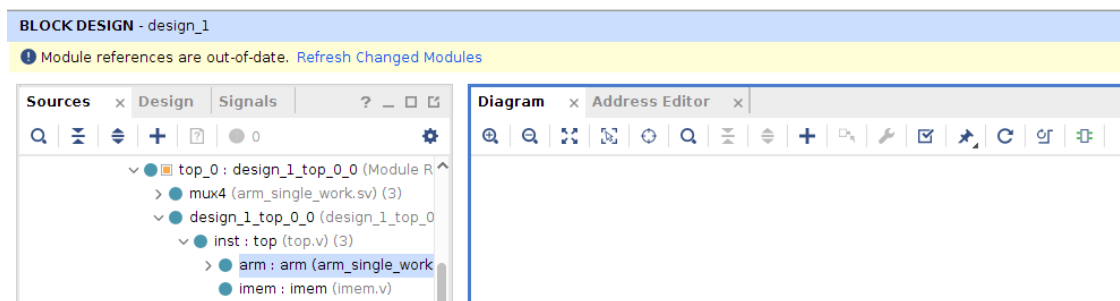
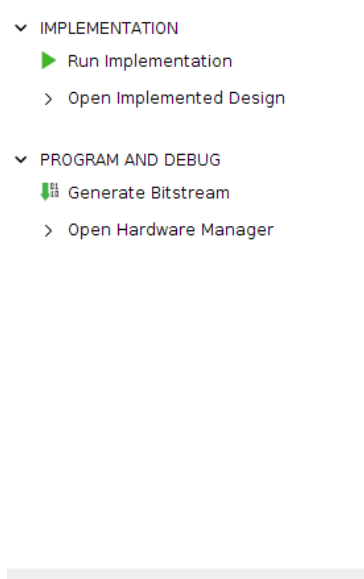

Figure 4: Refresh Changed Modules Banner
Figure 5: Generate Bitstream under Program and Debug
Anytime you make a change to the file and save it, a message will appear along the top of the screen that the Module References are Out-of-Date (Figure 4). Like what the script was doing, you've changed the module, but the other modules that connect to the ARM core haven't had a chance to refresh themselves and update their references. Clicking Refresh Changed Modules on that message will update the project index and refresh all references. You can then run the toolchain just like the script did by clicking Generate Bitstream on the bottom-left panel (Figure 5). A window will pop up letting you know that Synthesis is out-of-date and that will need to run first - answer Yes so all required steps will run first. Then, the Launch configuration window will open where you can set details about how the toolchain will run. Leave these at the defaults and click OK. Go to the Design Runs tab in Figure 2 to see each step's progress while waiting for them to complete (approximately 5 minutes).
6. Once Bitstream Generation is complete, a window will pop up asking what you would like to do next (Figure 5). Select Open Hardware Manager and click OK. If you accidentally close this window or select something else, you can easily get to the hardware manager using the Open Hardware Manager button below Generate Bitstream in Figure 5.
- Refresh Changed Modules using the button on the top banner (Figure 4).